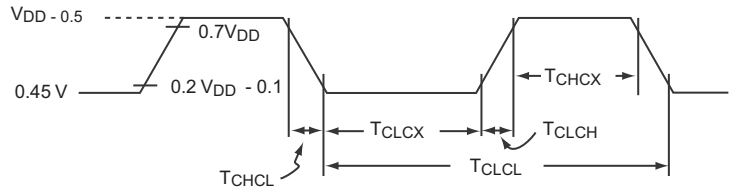

Figure 7. External Clock Drive Waveform
**Note 1:** Operating ICC is measured with all output pins disconnected; XTAL1 driven with TCLCH, TCHCL = 5 ns (see Figure 7.), VIL = VSS + 0.5V, VIH = VCC - 0.5V; XTAL2 N.C.; EA = RST = Port 0 = VCC. ICC would be slightly higher if a crystal oscillator used (see Figure 12).